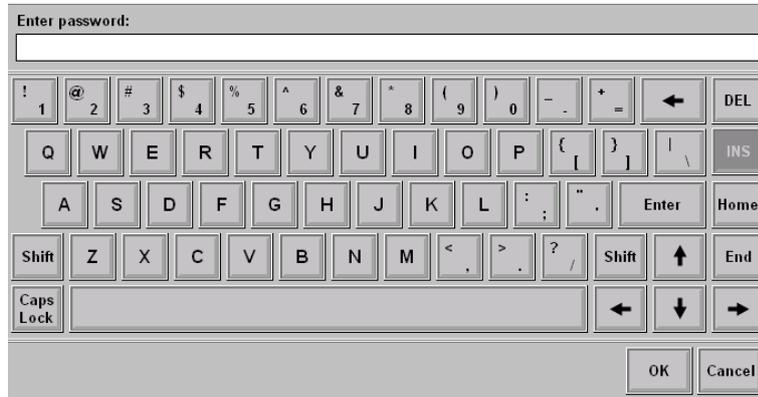

Figure G.2: DPShell. Enter password
1.4. Enter password “16” using a screen keyboard and press “OK” (see Figure G.2).